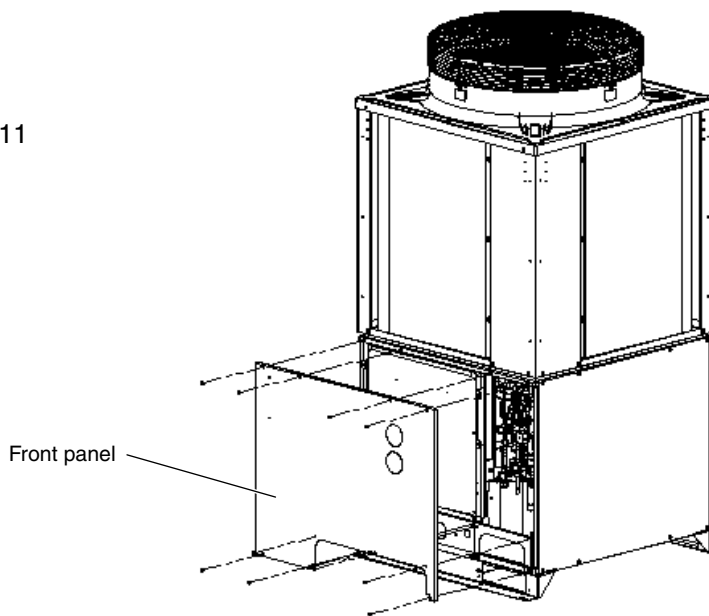

Fig. 1
### (1) Front panel removal (Fig. 1)